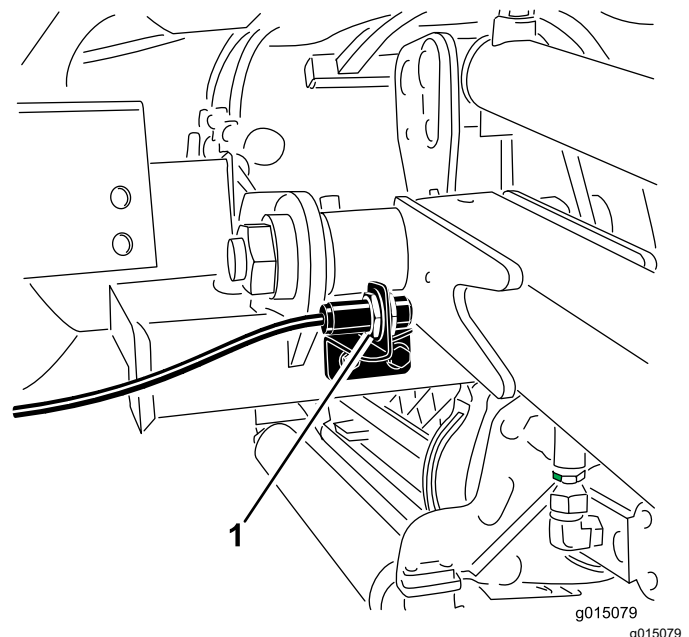

Figure 60
2. The lift arm switch is located behind the front right lift arm (Figure 60).
- Loosen the switch mounting screws (Figure 60) and move the switch up to increase the lift arm turn around height or move the switch down to decrease the lift arm turn around height. Tighten the mounting screws.